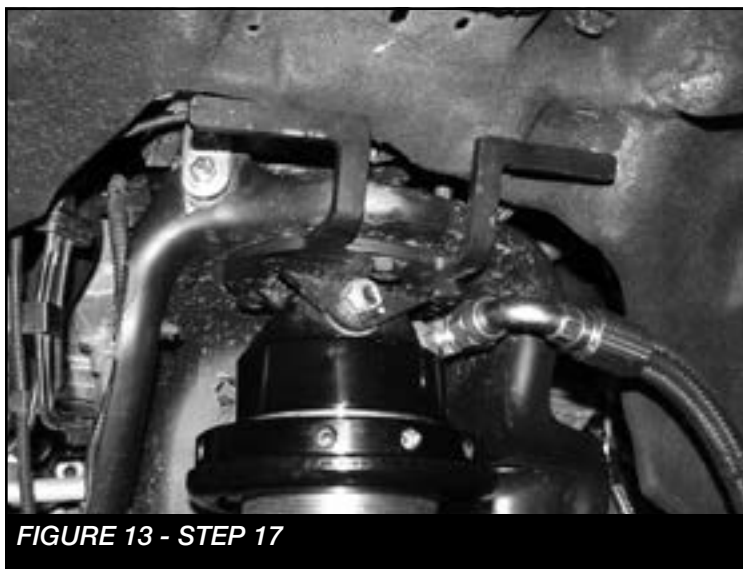

FIGURE 13 - STEP 17
17. Install the driver side coilover mount using the supplied 7/16" nuts and washers for the upper mount and the 5/8" hardware with two FT83475 (Misalignments) at the lower mount. Torque 7/16" to 83 ft-lbs and 5/8" 254 ft-lbs. SEE FIGURE 13